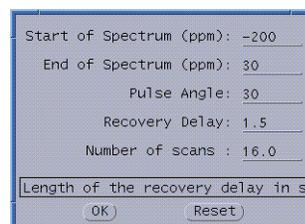

Figure 47. CustomQ Fluorine 1D Acquisition Options
1. Click on **Fluorine** in the *CustomQ HCPF 1D Acquisition Options* window. The window shown in **Figure 47** opens.